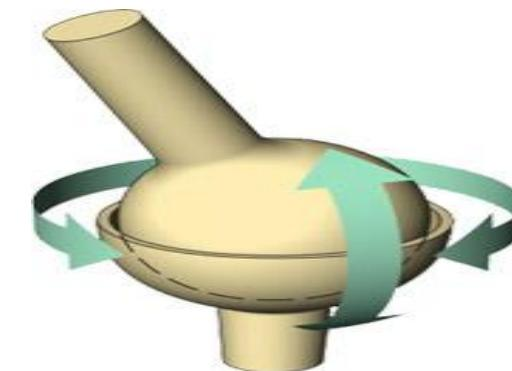

Figure 4
- Joint classification: Lower pair joint (Spherical), Figure4.